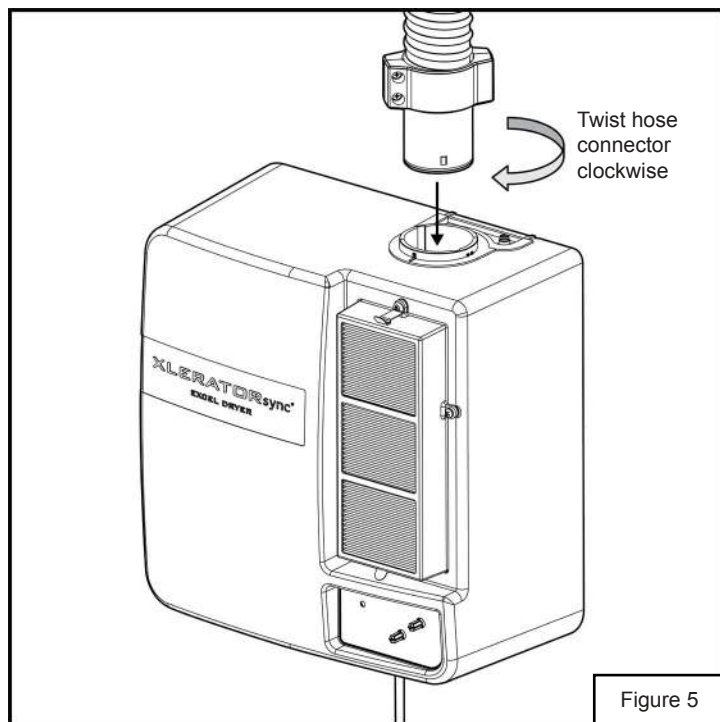

Figure 5
5. Similar to step 4, align the slots on the hose connector with the dryer output tabs. Insert Hose Connector until it stops, then rotate clockwise about 1/8th of a turn to snap into place in direction shown (Figure 5).